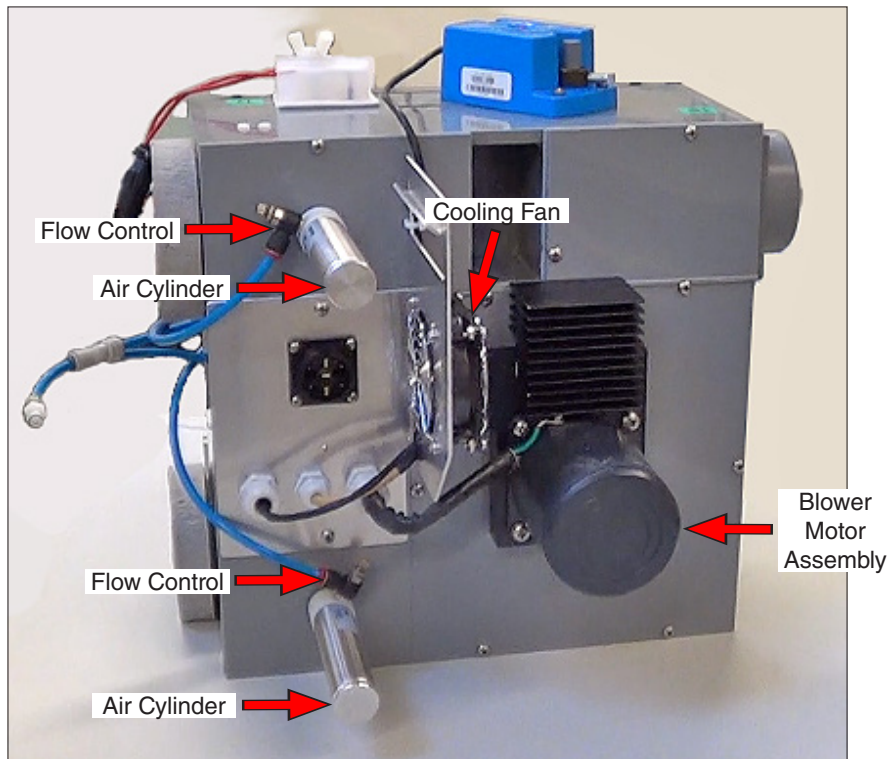

Figure 8.13c: Air control module rear.
- The air control module (also known as a Blower Module) is the main control mechanism for the Q-FOG RH function (Figure 8.13a through Figure 8.13c).